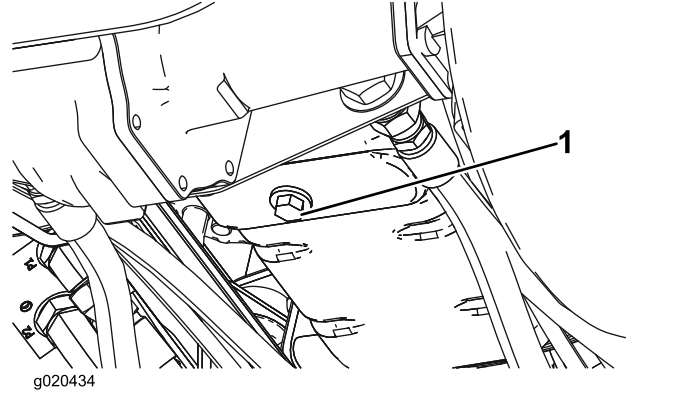

Figure 51
1. Remove the drain plug (Figure 51) and let the oil flow into a drain pan. When all the oil is drained, install the drain plug.